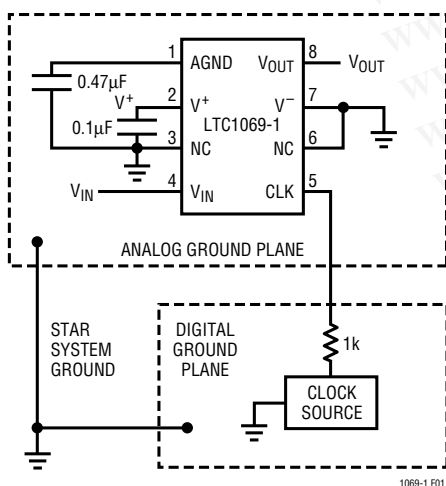

Figure 1. Connections for Single Supply Operation
For single supply operation Pin 1 should be bypassed to the analog ground plane with a $0.47\mu\text{F}$ or larger capacitor. An internal resistive divider biases Pin 1 to 1/2 the total power supply. Pin 1 should be buffered if used to bias other ICs. Figure 1 shows the connections for single supply operation.
fall is $1\mu\text{s}$. The clock signal should be routed from the right side of the IC package to avoid coupling into any input or output analog signal path. A 1k resistor between the clock source and the clock input pin (5) will slow down the rise and fall times of the clock to further reduce charge coupling, Figure 1.